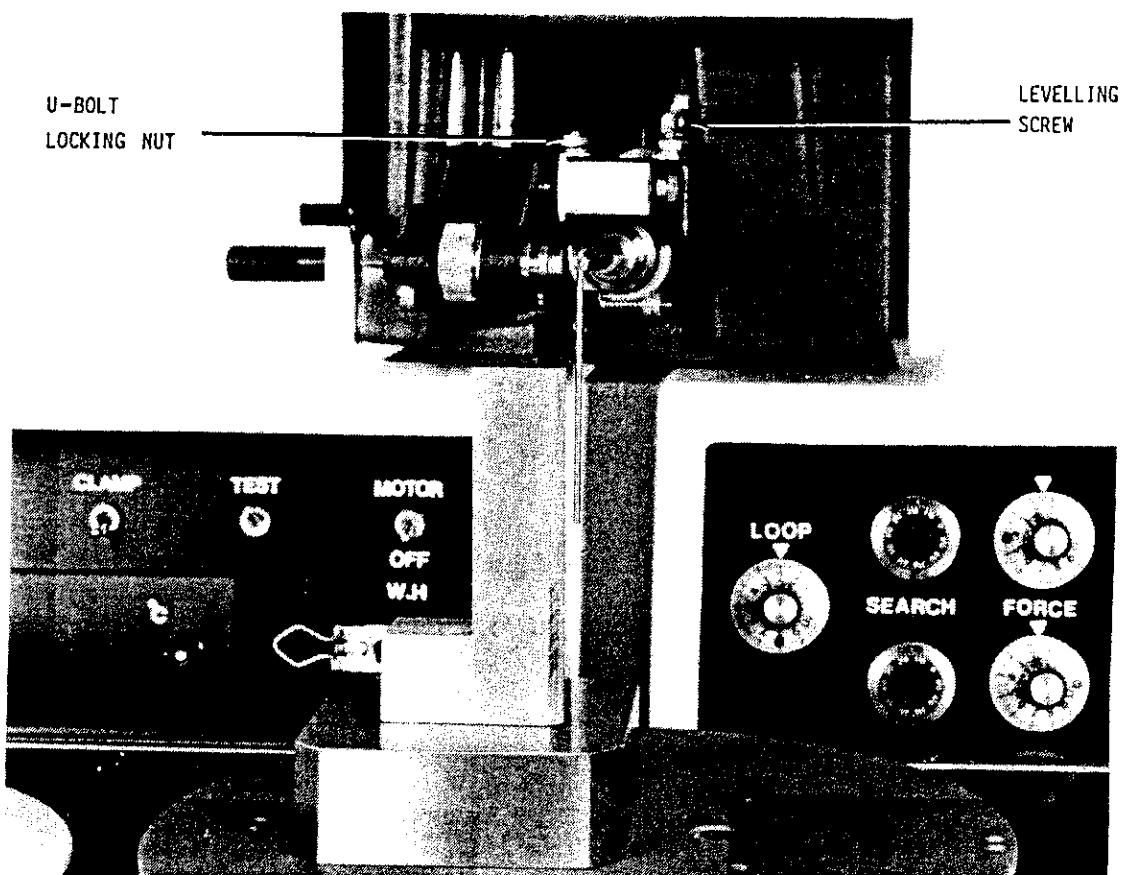

Figure 9-6 Verticality Adjustment - Front View
- Step 6 While holding the Transducer at the correct insertion depth, adjust its angular orientation by turning it with your finger tips (Figure 9-6). The verticality pin should line up with an angle bar on a square block. Tighten the 2 U-bolt lock nuts at a 7 kg-cm torque.